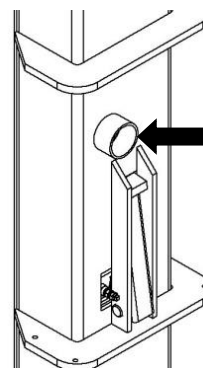

FIGURE 24 : PROTECTIVE COVER
- LEVELLING VALVE PROTECTIVE COVER (RED) ON MASTER COLUMN. SEE **FIGURE 24**.